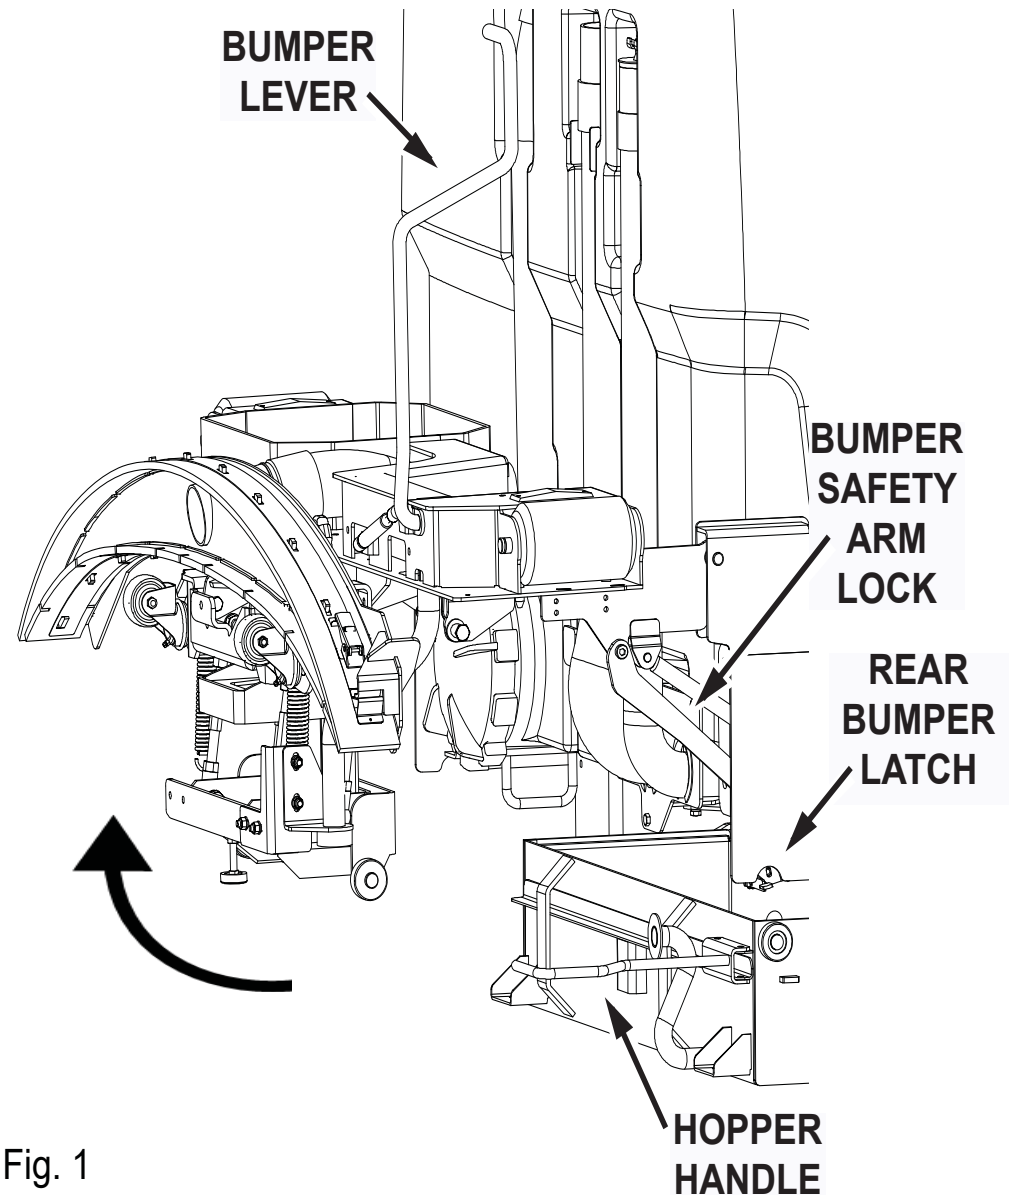

Fig. 1
5. Locate the orange hopper handle under the right rear corner of the machine and pull the hopper cradle back and down onto the floor. (See Fig. 1)
12. Position the hopper cradle so that the front set of wheels on the sides of the hopper cradle are just inside the machine rear wheel wells. From this position the hopper will be pushed into place when the rear bumper is closed. (See Fig. 1)